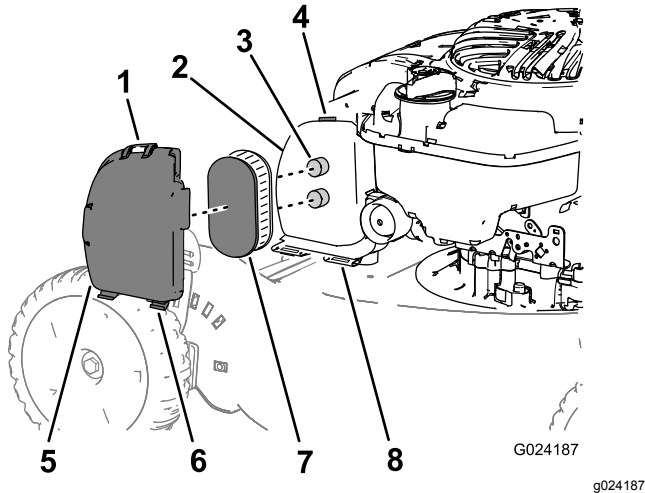

Figure 17
1. Press the top tab on the air cleaner cover (Figure 17) and open the cover.
2. Remove the air-cleaner element (Figure 17).